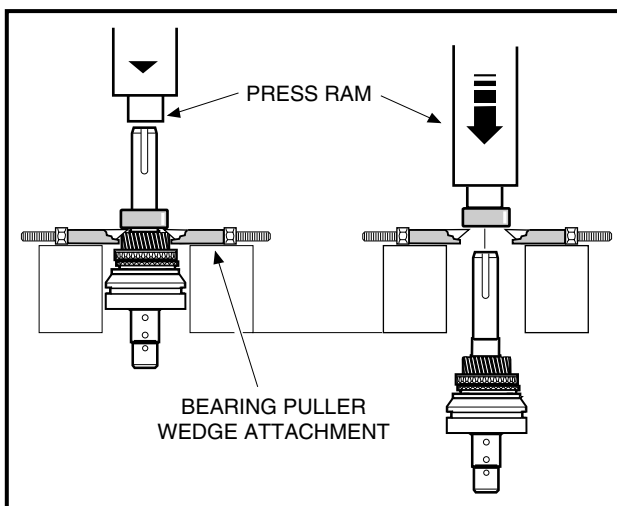

Figure 16a-55 Remove Bearing
5. Use a small flat-blade screwdriver to remove two synchronizer springs (snap rings) (49), and then slide the synchronizer clutch hub (52) from the input shaft (54) (**Figure 16a-48, Page 16a-23**). See following **NOTE**: